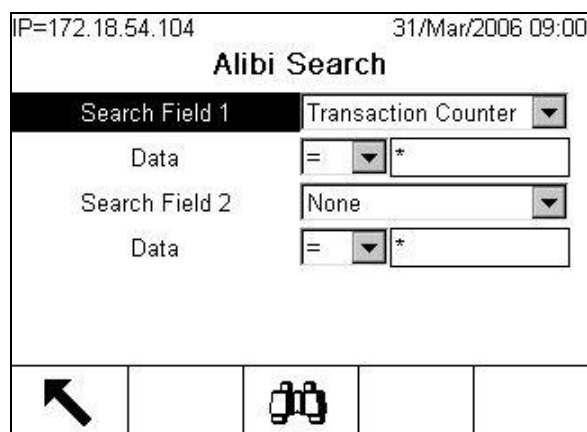

Figure C-1: Alibi Search Screen
4. The Alibi Search screen (Figure C-1) displays.